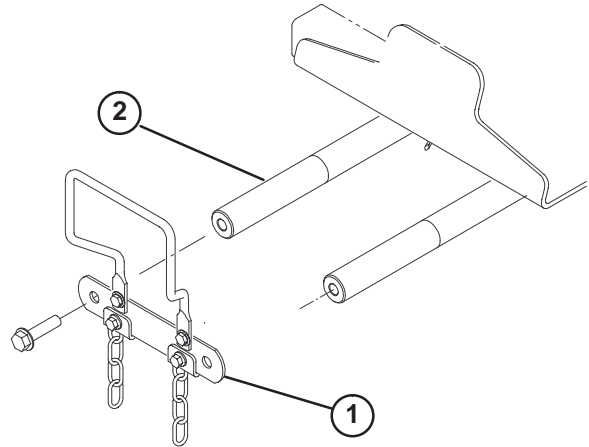

Figure 12
1. Remove (2) capscrews securing lift arm pivot shaft link to lift arm pivot shafts. Remove and retain pivot shaft link and capscrews (Fig. 12).